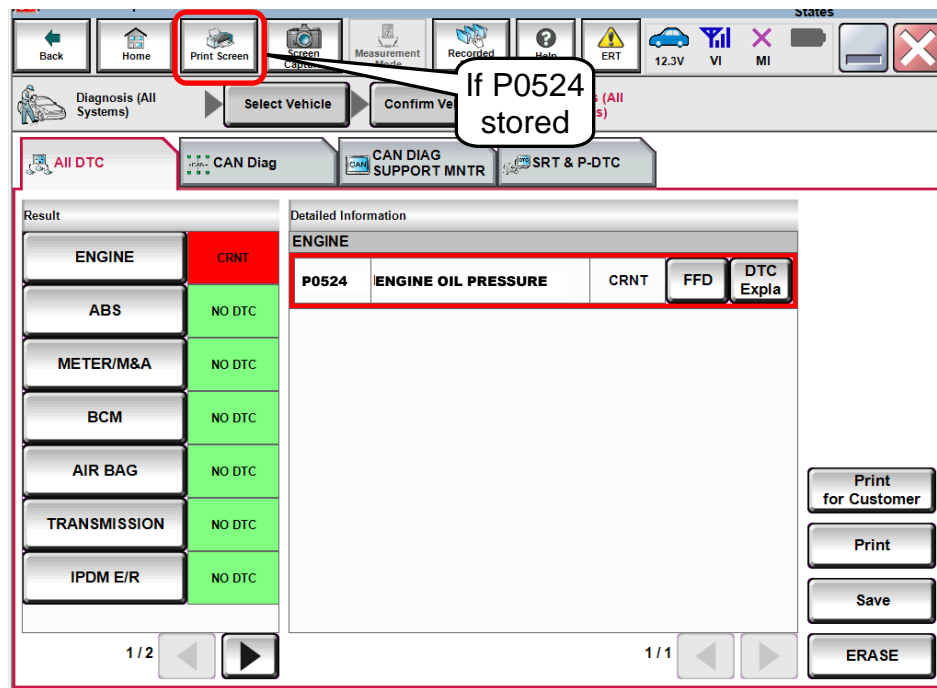

Figure 1
- Print screen (picture) of DTC P0524 with VIN (see Figure 1)